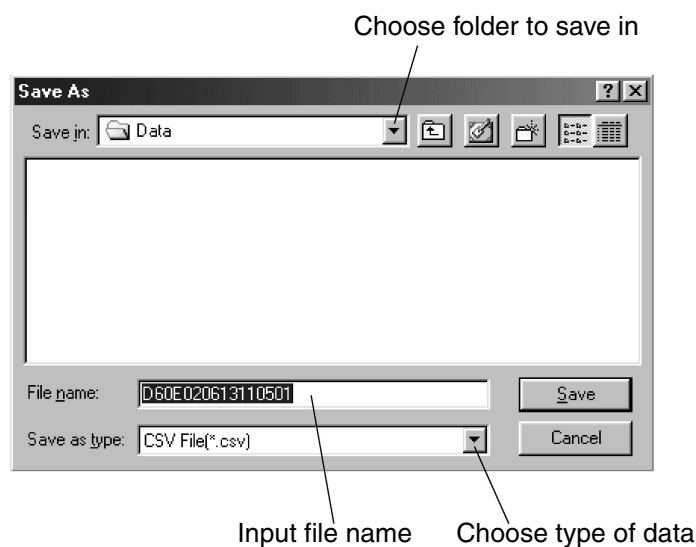

Fig. 17
2. Select the disk and folder where the data will be saved and specify its file name. (Fig. 17)
To cancel saving, click the **Cancel** button. (Fig. 17)